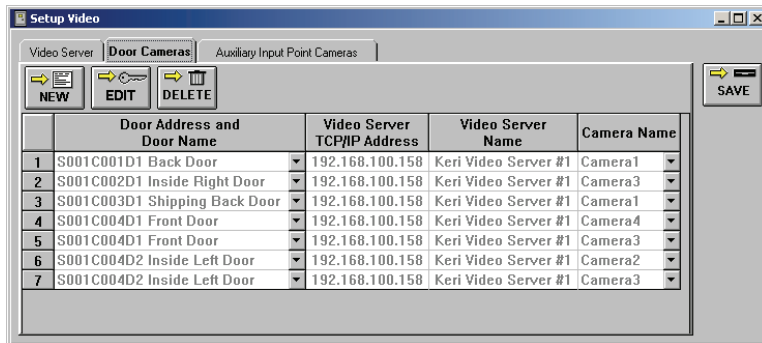

Figure 15-10: Door Cameras Tab with Doors and Cameras Assigned
3. The finished window may appear similar to Figure 15-10.